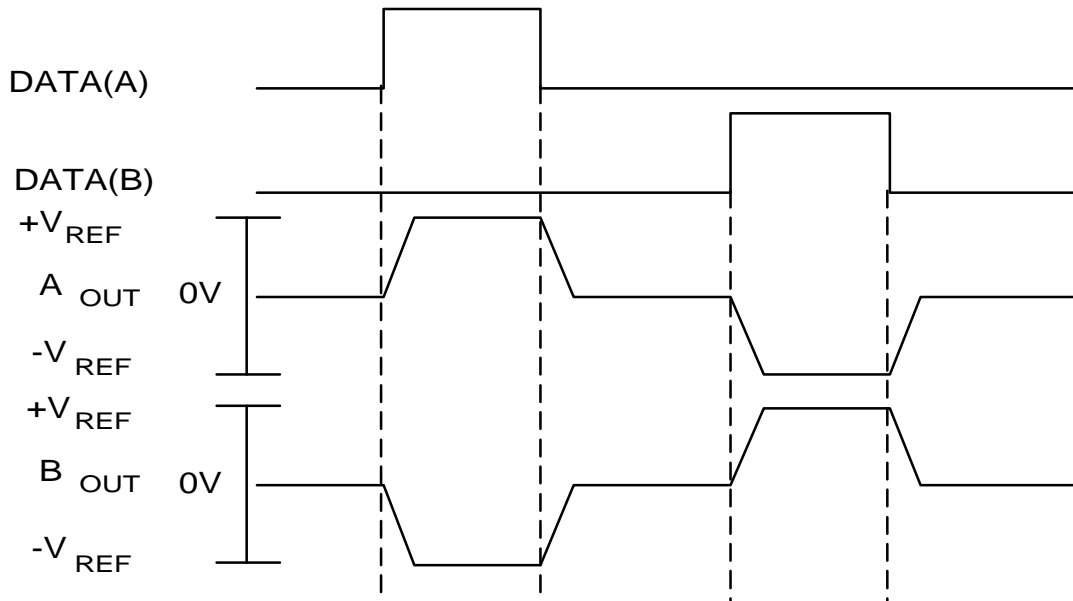

Figure 2: ARINC 429 Waveforms
DATA(A) DATA(B)	Logic inputs. These signals contain the Serial Data to be transmitted on the ARINC 429 data bus. Refer to Figures 2 and 3.
Figures 2 and 3 show the output waveforms for the ARINC 429 and RS-422 modes of operation.